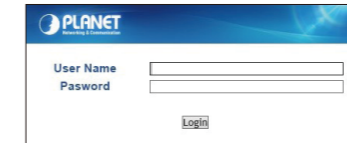

Figure 4-2: Login Screen
2. When the following dialog box appears, please enter the default user name "admin" and password "admin" (or the password you have changed before) as shown in Figure 4-2.